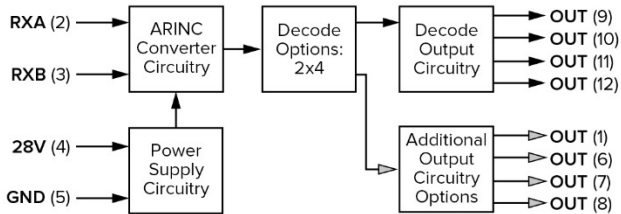

FIGURE 30. SR429/4M Series-R (12 Pins).
OUT Pins 9,10,11,12	Four additional outputs, as shown on FIGURE 30, selected from combinations of 1) outputs related to the primary outputs, 2) Health Monitor (H), Health Monitor have defined output polarity 3) Watchdog (W). Watchdog have defined output polarity 4) SSM Decode outputs. SSM Decode outputs have level options when DECODE = TRUE. The use of additional outputs requires a Series R (12 Pin) ARINC 429 Multi-Bit Converter.
**2 x 4 Decoder:** unit provides a binary decode of two ARINC 429 data bits converted into four output signals, each corresponding to a single binary decode permutation (i.e. 00,01,10,11) The 2 X 4 Decoder can be configured as a Series-N (8 pin) or a Series-R (12 Pin) device as shown in Figure 30. The additional outputs options in a Series R device include 1) a specific decode of individual ARINC 429 bits (including the two individual bits used in the primary decode), 2) Health Monitor (H) and 3) Watchdog (W).